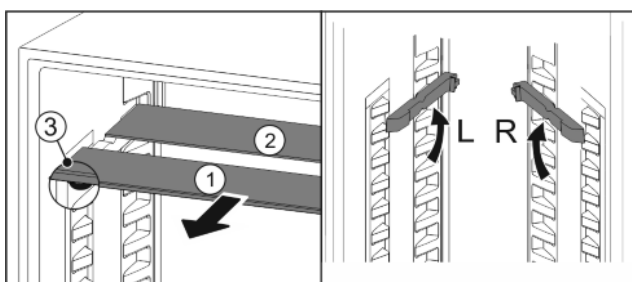

Fig. 22
- Pull the glass panels out Fig. 22 (1) from the front, one at a time.
- ▷ Glass panel Fig. 22 (1) with pull-out stoppers is at the front.
- ▷ Stoppers are pointing down Fig. 22 (3).